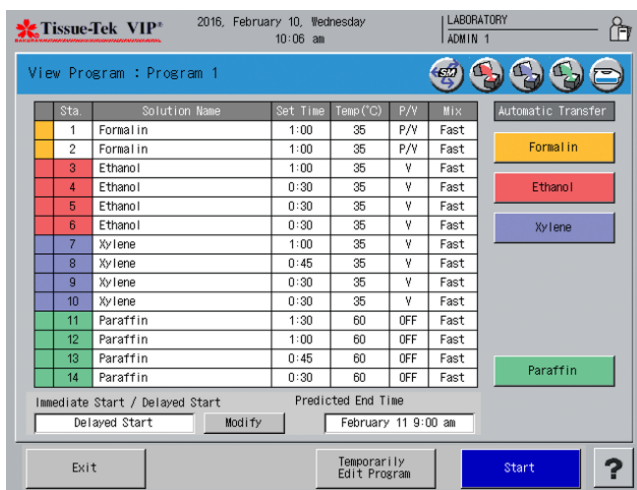

Figure 4-F
- The View Program screen is displayed (Figure 4-F). The screen includes the following details: